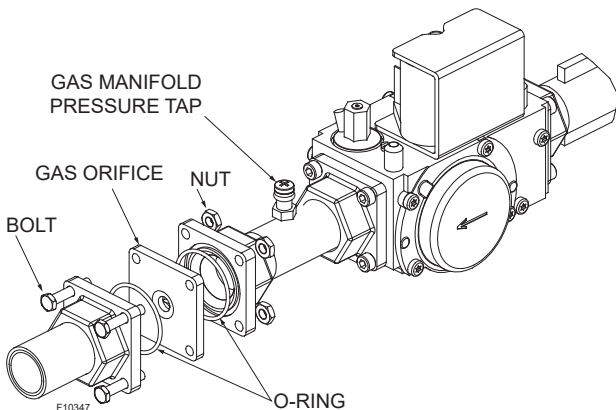

Figure 43. Gas Train
1. Gas manifold pressure is measured at the pressure tap between the gas valve and gas orifice (See Figure 43).
4. Locate and remove the (4) bolts & nuts holding the gas orifice in place. See **Figure 43** below.